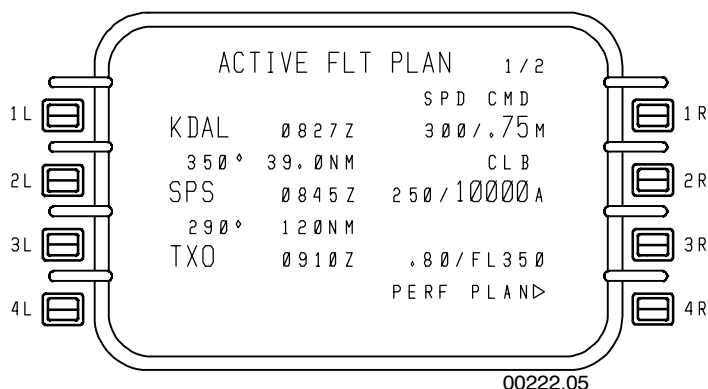

Figure 3-6
- **Flight Plan (FPL) Key** – Pressing the FPL key displays the first page of the active flight plan. An example page is shown in Figure 3-6. If no flight plan is entered, the pilot can perform the following: